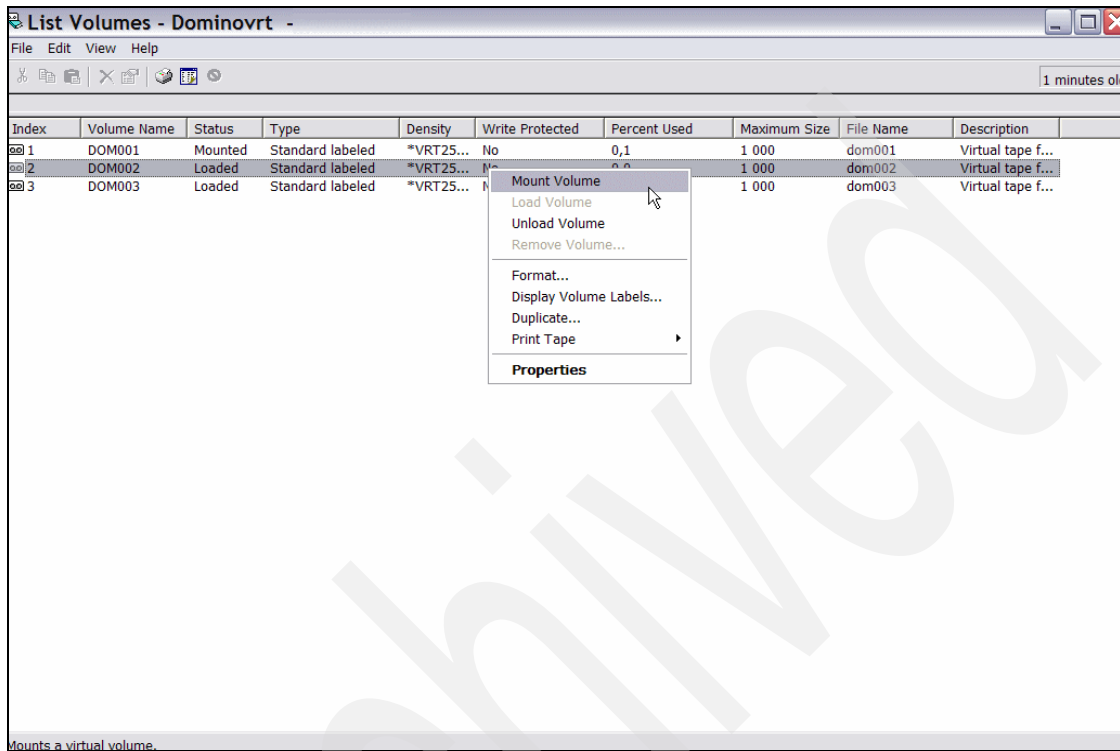

Figure 5-14 Domino with BRMS virtual tape, mount next volume
13. After the first volume is initialized, mount the next volume to be initialized, as described in step 10 on page 197, and shown in Figure 5-14.